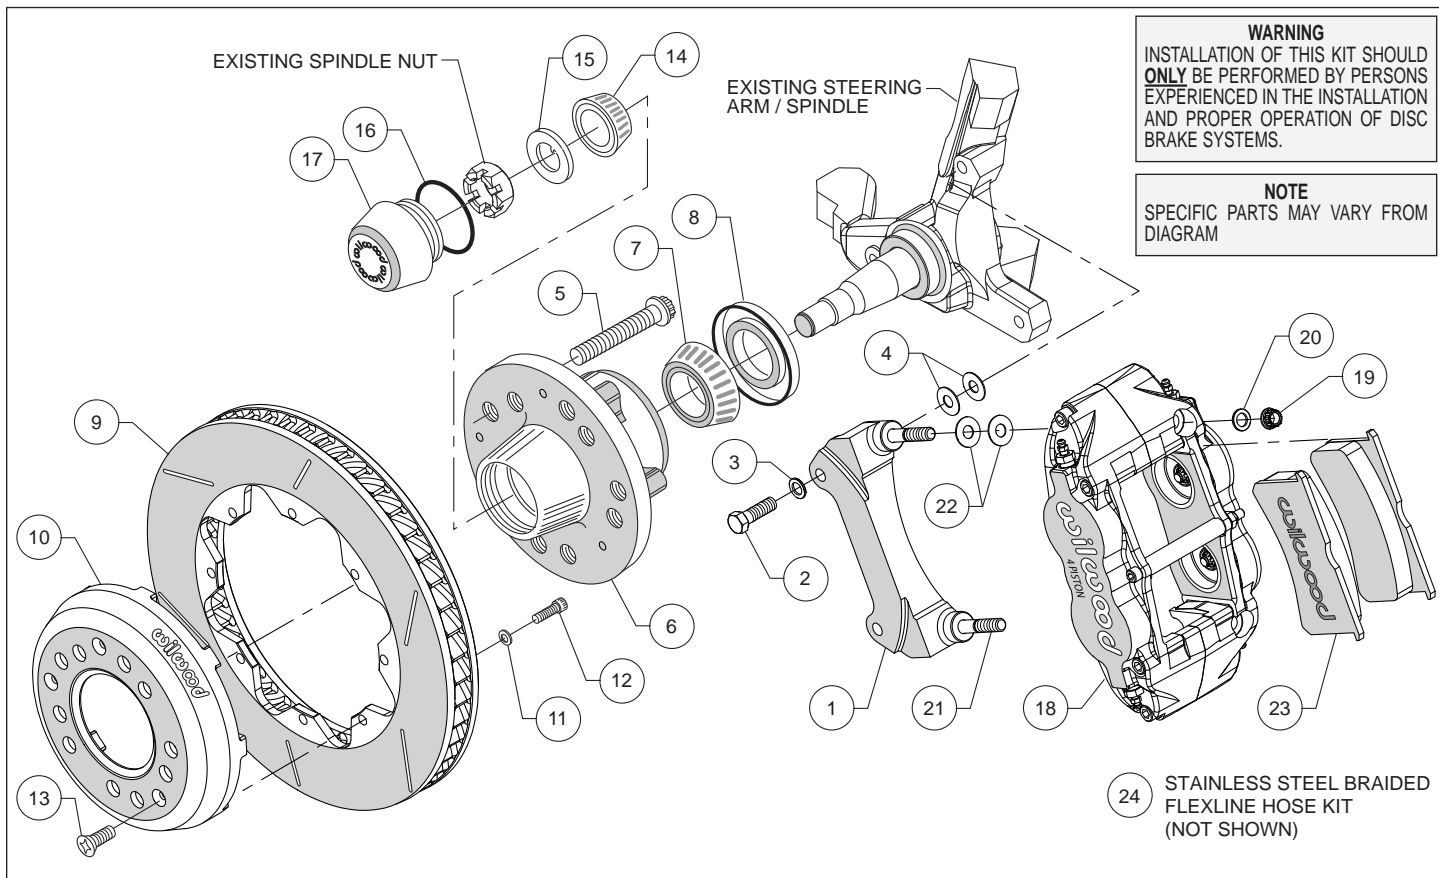
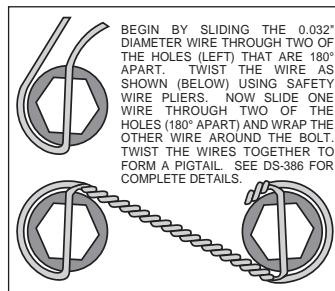

Figure 2. Typical Installation Configuration
Figure 4. Safety Wire Diagram
Assembly Instructions (numbers in parenthesis refer to the parts list and Figure 2 on the preceding page):
- The caliper mount bracket (1) should initially be installed with clean, dry threads on the mounting bolts. Orient the bracket as shown in Figure 2 and Photo 1, and install using bolts (2) and washers (3). Initially place two .035" thick shims (4) on each bolt between the bracket and upright, Figure 2. Temporarily tighten the mounting bolts. **NOTE: The bracket must fit squarely against the mounting points on the spindle.** Inspect for interference from casting irregularities, machining ridges, burrs, etc. Later, after the caliper alignment has been checked, the mount bolts will be secured using red Loctite® 271.
- Orient the rotor (9) and the hat (10) as shown in Figure 2 and Photo 4. Attach rotor to hat using bolts (12) and washers (11). Using an alternating sequence, apply red *Loctite*[®] 271 to the threads, and torque to 25 ft-lbs. For an added measure of security, the bolts may be safety wired using standard 0.032 inch diameter stainless steel safety wire as shown in Figure 4. Refer to Wilwood's data sheet DS-386 (available at www.wilwood.com/Pdf/DataSheets/ds386.pdf) for complete safety wire installation instructions.
- **NOTE:** This kit contains distinct right and left hand calipers that must be mounted in a specific direction, as described below. Lubricate the caliper mounting studs (21) with lightweight oil. Initially place two .035" thick shims (22) on each stud between the caliper and the bracket, as shown in Figure 2 and Photo 7. With the bleed screws pointing up, mount the caliper (18) onto the bracket (1) using lock nuts (19) and washers (20), Figure 2. Ensure that the caliper is mounted so the largest pistons are at the rotor exit end of the caliper, in relation to the direction of rotor rotation. Temporarily tighten the lock nuts and view the rotor through the top opening of the caliper. The rotor should be centered in the caliper, Photo 8. If not, adjust by adding or subtracting shims (4) between the bracket and the spindle. Always use the same amount of shims on each of the two mounting bolts. Once the caliper alignment is correct, remove the bracket mounting bolts one at a time, apply red *Loctite*[®] 271 to the threads, and torque to 40 ft-lb.